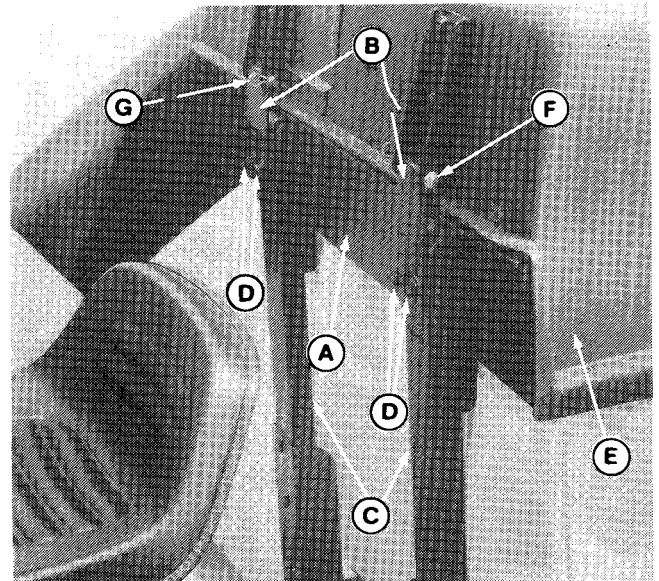

Figure 28. (Shown With Cover Installed)
3. Attach the support plate (A, figure 28) and hinges (B) to the two upper braces (C). Insert four 5/16-18 x 7/8 capscrews from rear, then install 3/8 (ID) x 7/8 (OD) washers, lockwashers and nuts (D) (unless already assembled).
9. Place cover (E, figure 28) onto the support plate and align the hinges. Insert two pins (F) and install clips (B). The front edge of the cover must seal against the support plate. Loosen nuts (D) to re-position if necessary, then tighten.